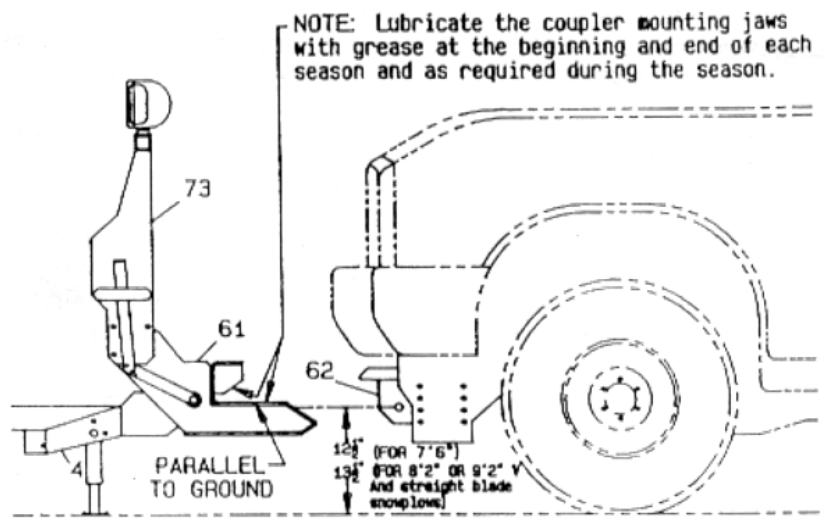

Figure 1
- Adjust the jackstand so that the top of the coupler jaw is approximately 1/2" higher than the bottom of the pushbeam rod. (See Figure 1)
6. Lubricate the coupler mounting jaws (Fig. 1).